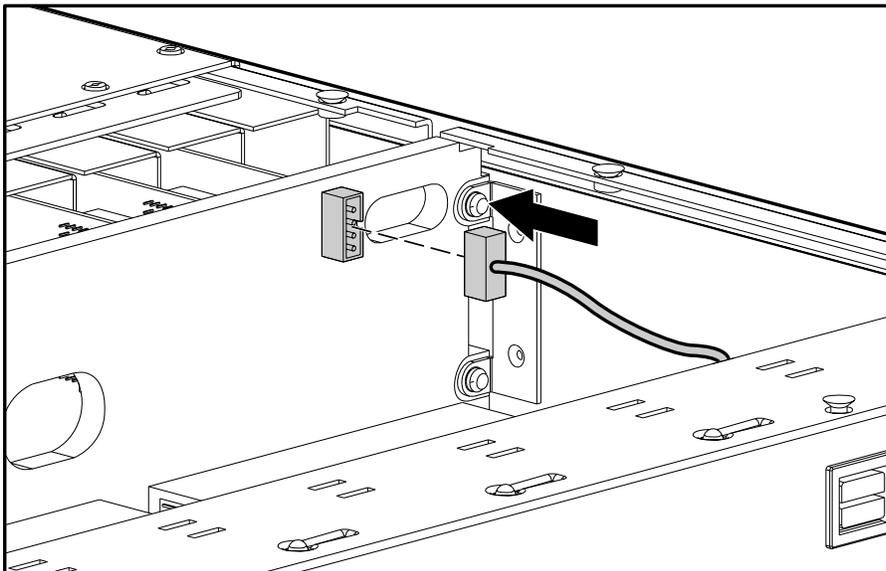

Figure 29: Connecting the power switch cable
12. Connect the end of the power switch cable to the midplane as shown in Figure 29.